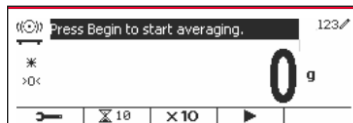

Figure 82
4. Press the softkey corresponding to the  icon to exit submenu. (See Figure 82)